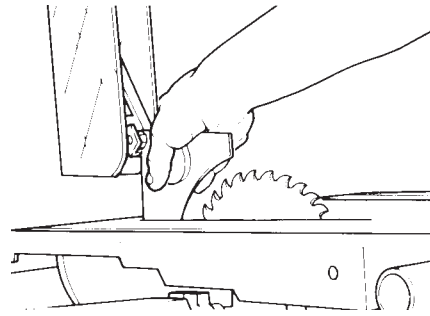

Figure C-86
8. Install the upper saw guard. Grasp the top of the riving knife, with the guard up, and slide the guard through the table insert into the lower saw guard. See Figure C-86. Tighten the guard lock knob.